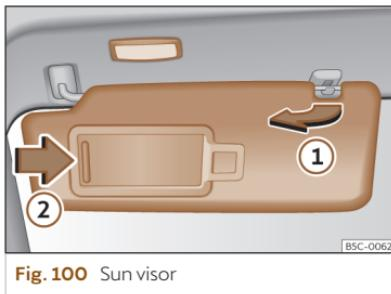

Fig. 100 Sun visor
- The sun visor can be pulled out of its mounting and turned towards the door >>> **Fig. 100** ①.